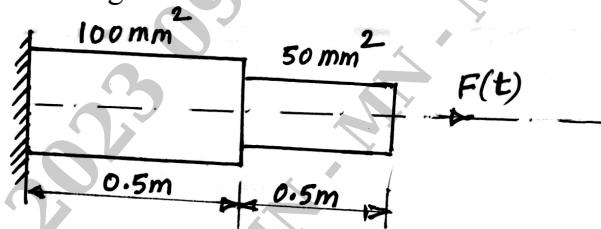

Fig Q10(b)
- b. Determine the eigenvalues and eigenvectors for the stepped bar as shown in Fig Q10(b). Take $E = 200\text{GPa}$, $\rho = 7830\text{ Kg/m}^3$